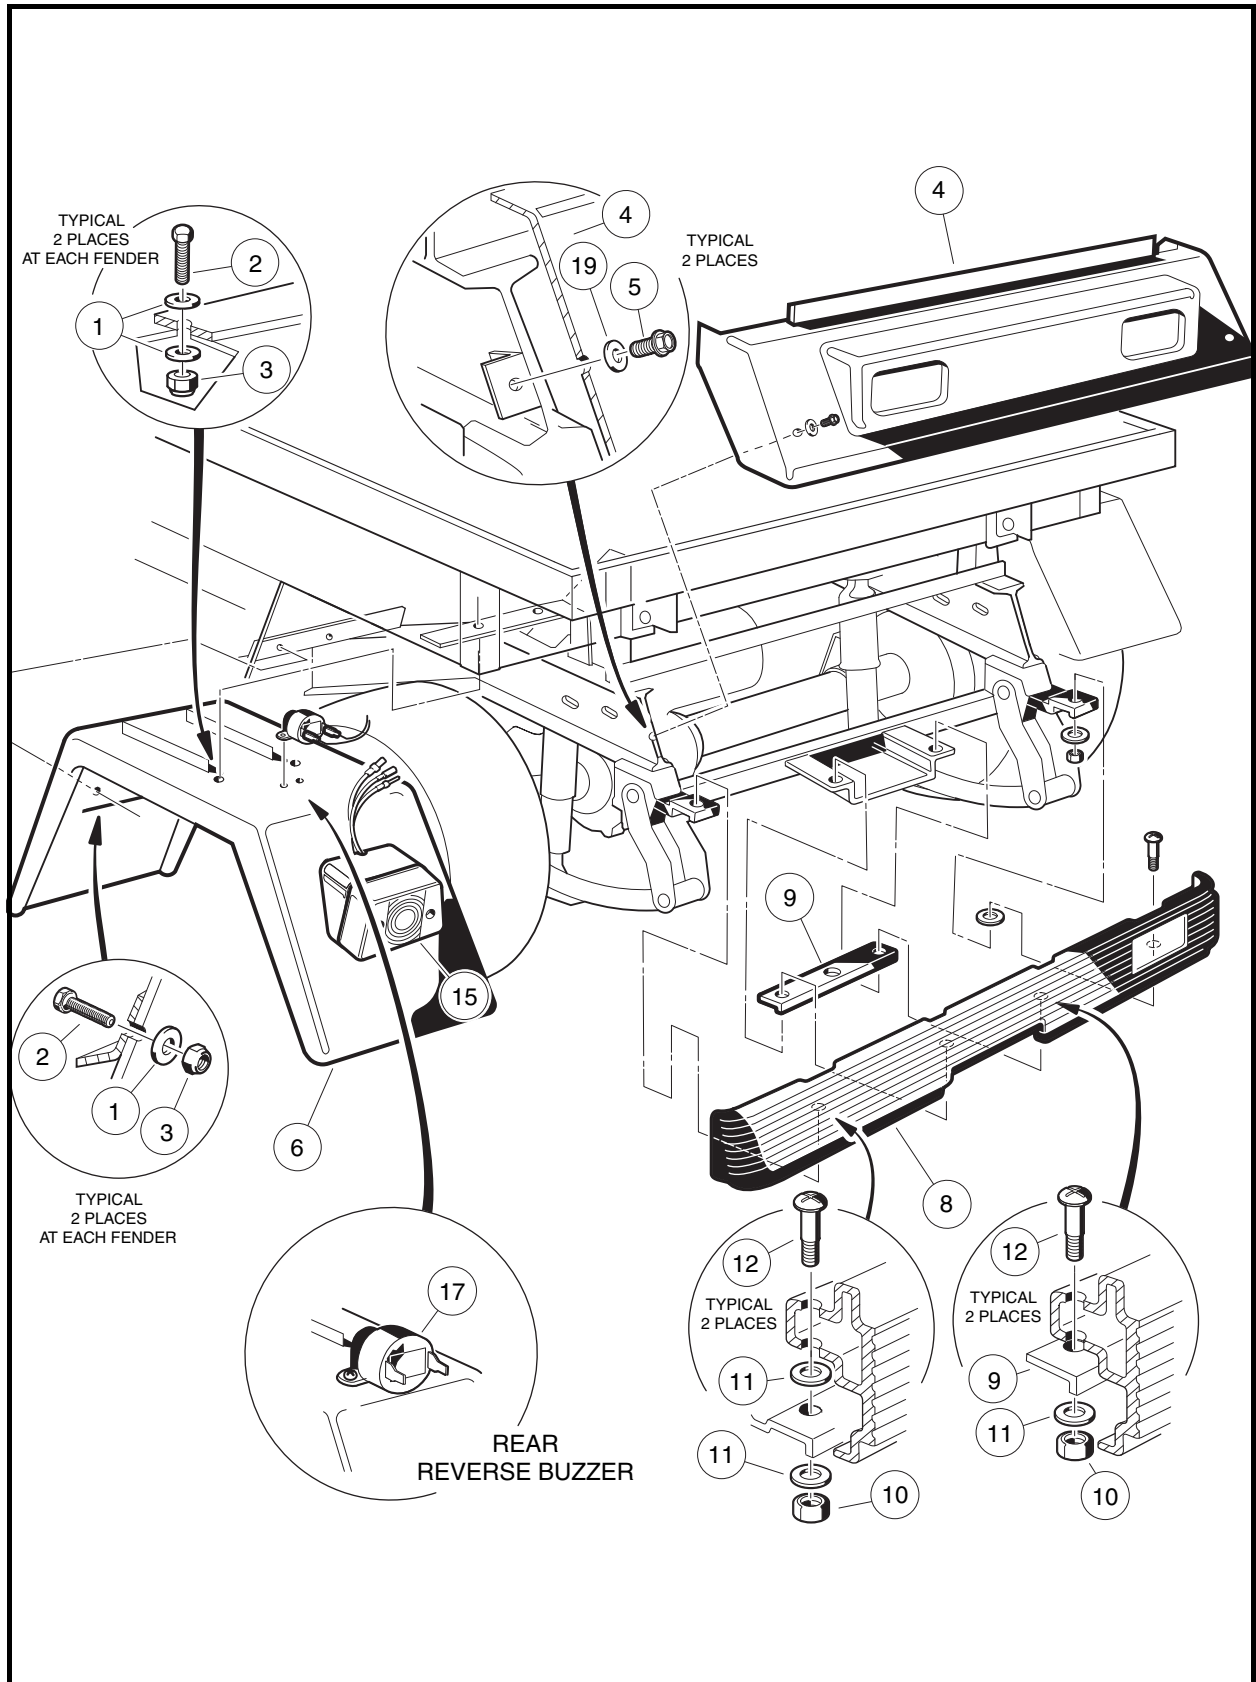

Figure 4-14 Rear Fender, Tailskirt and Bumper – TransPorter 4 and 6
1. Disconnect the three wires that supply power to the taillights (15) (**Figure 4-14, Page 4-18**).
2. Remove the two nylon lock nuts (3), flat washers (1) and bolts (2) from front of fender (6).
3. Remove the two lock nuts (3), flat washers (1) and bolts (2) from top of fender (6).
4. Disconnect the two wires from the reverse buzzer (17).
5. Remove the fender (6) from vehicle.
1. Connect the two wires to the reverse buzzer (17) and install rear fender (6) (**Figure 4-14, Page 4-18**).
2. Install the two nylon lock nuts (3), flat washers (1) and bolts (2) onto top of fender (6).
3. Install the two nylon lock nuts (3), flat washers (1) and bolts (2) onto front of fender (6). Tighten hardware to 35 in-lb (4.0 N·m).
1. Remove the two thread-forming screws (5) and flat washers (19) from tailskirt (4) and lift the tailskirt from the frame (**Figure 4-14, Page 4-18**).
1. Insert upper edge of tailskirt (4) under and in front of the back edge of the rear body (**Figure 4-14, Page 4-18**).
2. Align holes in tailskirt (4) with holes in vehicle frame. Position tailskirt flush against vehicle frame.
3. Install two thread-rolling screws (5) and flat washers (19) in tailskirt and tighten to 55 in-lb (6.2 N·m).
1. Remove four lock nuts (10), six flat washers (11), four phillips bolts (12), and mounting plate (9) from rear bumper (8) (**Figure 4-14, Page 4-18**).
1. Install the rear bumper in the reverse order of removal. Tighten nuts to 65 in-lb (7.3 N·m) (**Figure 4-14, Page 4-18**).